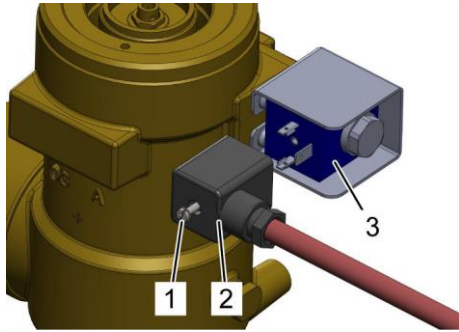

Fig. 171: Check the coil
1. ➤ Unscrew screw (Fig. 171/1) on the plug and pull off plug (Fig. 171/2).
2. ➤ Measure the electrical resistance of the coil (Fig. 171/3) with a resistance measurement device. The target value should be $96 \text{ Ohm} \pm 10 \%$.
Ensure that the plug is not connected on the coil (Fig. 171/3) of the valve.